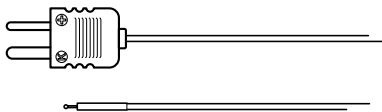

Figure 5.3 Supplied Type-K Thermocouple
2. Connect a Type-K thermocouple sub-miniature plug (see **Figure 5.3**) to the jack in the top compartment.